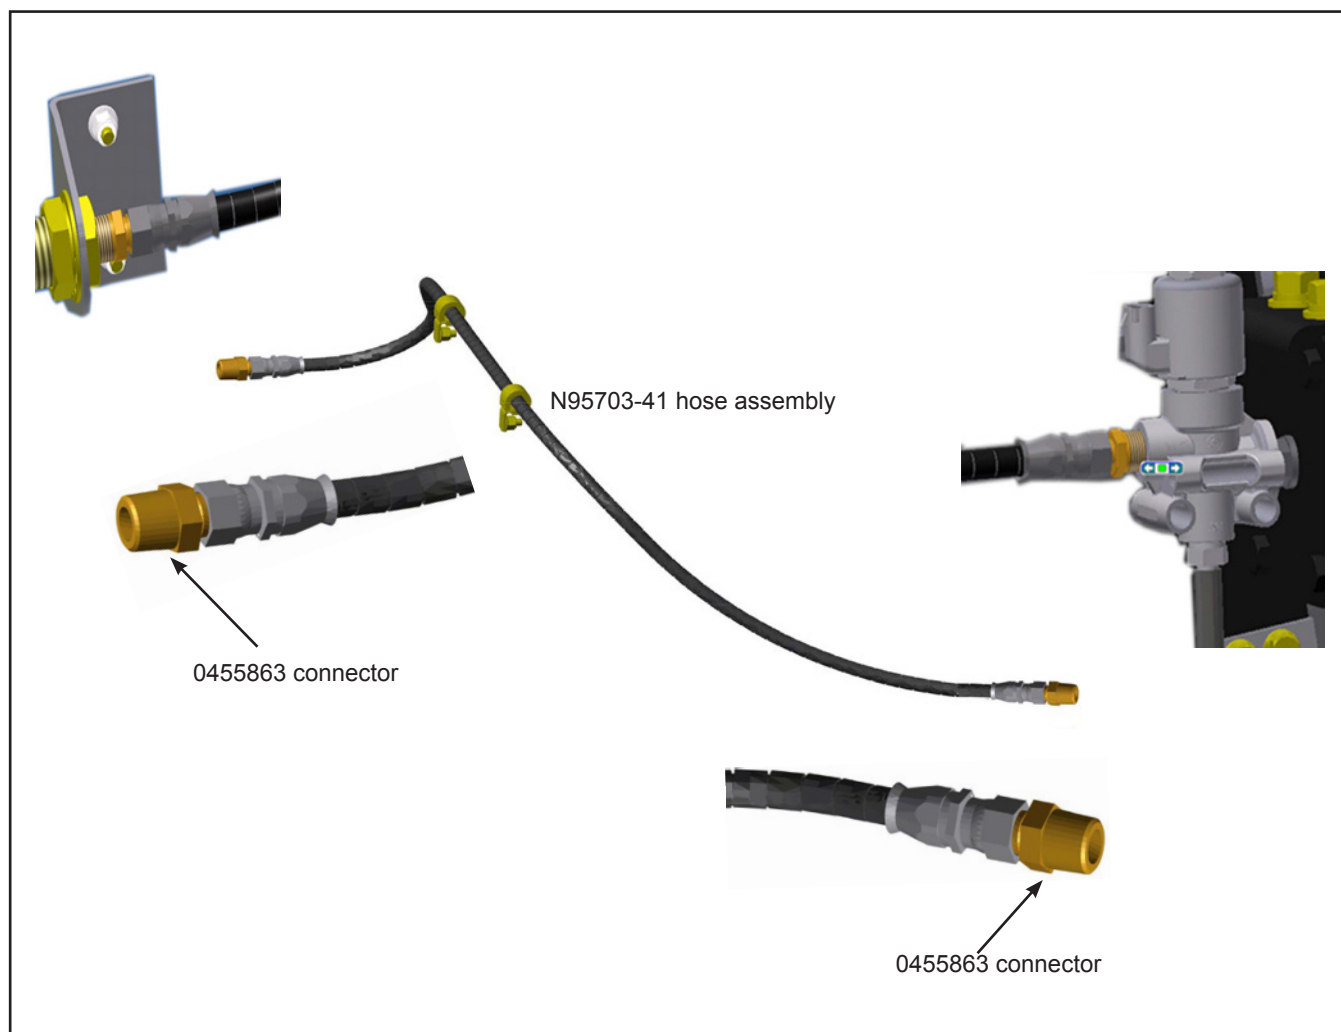

Figure 4 - New Retarder Air Line Assembly
- 1.8. Install the two new 0455863 connectors. See Figure 4.
- 1.9. Install the new N95703-41 hose assembly. See Figure 4.